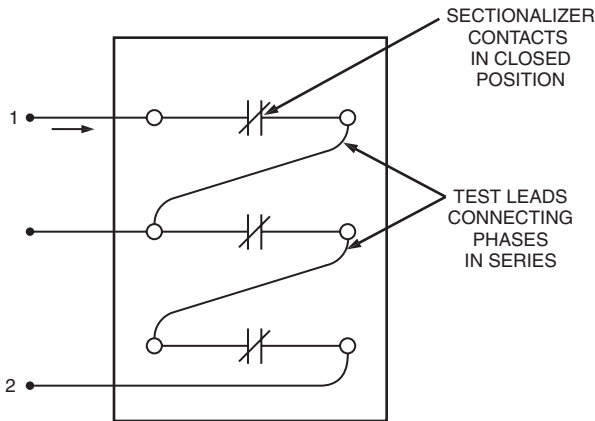

Figure 13.
1. Connect all three phases of the sectionalizer in series, as shown in Figure 13, and close sectionalizer.